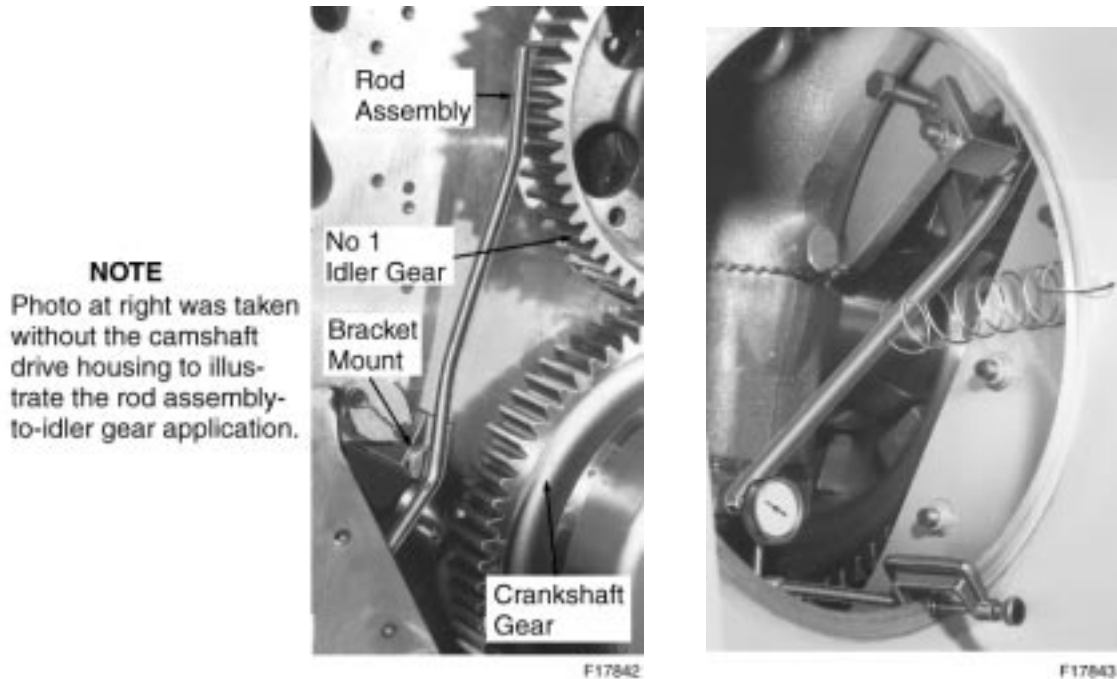

Figure 7-7. Application Of Parts For Checking Bearing Clearance
2. Position the rod so that the bracket mount straddles the crankcase end plate, and the top of the rod contacts the side of the No. 1 idler gear, Figure 7-7. Hand tighten the bracket bolt.
3. Apply the light tension spring between the lower part of the rod and the edge of the handhole opening, Figure 7-7, to maintain idler gear to rod contact.
4. Secure the support clamp of a dial indicator to the edge of the handhole opening. Position the indicator plunger so that it contacts the flattened side of the rod, Figure 7-7.